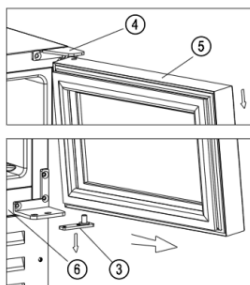

Figure 2
- Pull the door ③ outwards slowly [follow the arrow direction in Figure 2] to get
- The lower hinge ② and continue to pull the door ⑤ downwards slowly until getting off from the top right hinge ④, and take off the lower hinge plate ③ from the door axis hole [Figure 2].#
2. Unscrew the two screws ④ used to fix the lower hinge plate ⑤ at the bottom right corner of the door ③. Take out the door shaft sleeve ⑥ and two decorative screws ⑩ on the top right corner, and install them in the corresponding position on the lower right corner. Then use two screws ④ to install the lower hinge plate ⑤ at the corresponding position on the top right corner [Figure 2].